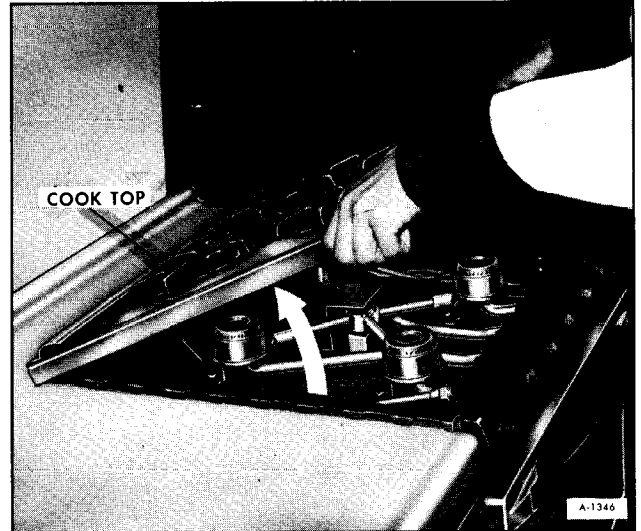

Figure 6—Cook Top Removal
2. Remove cook top and grates (See figure 6).